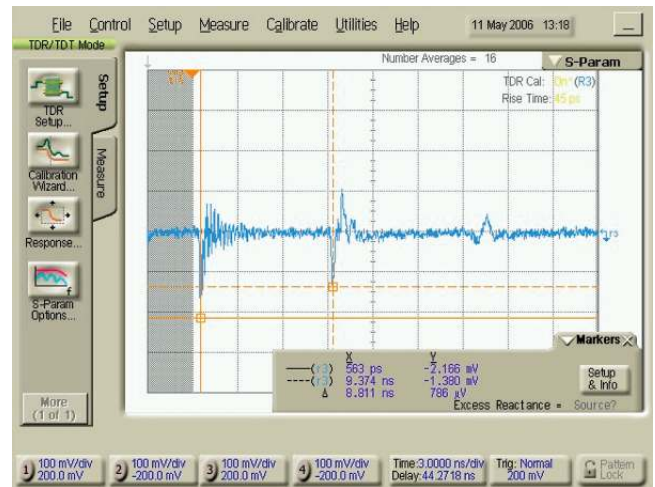

Figure 7. NEXT Time Domain
- 1 Display the differential TDT response and adjust the time/div to display 4–6X the cable length on the screen (see Figure 7 and note markers at start and 2X).